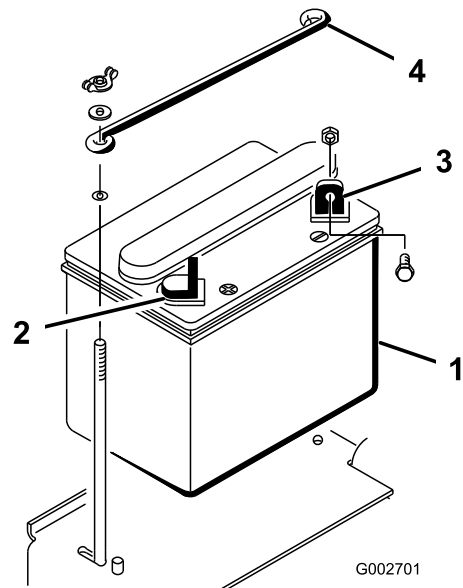

Figure 4
- Set the battery in place, with the negative terminal positioned to the rear of the machine (Figure 4).